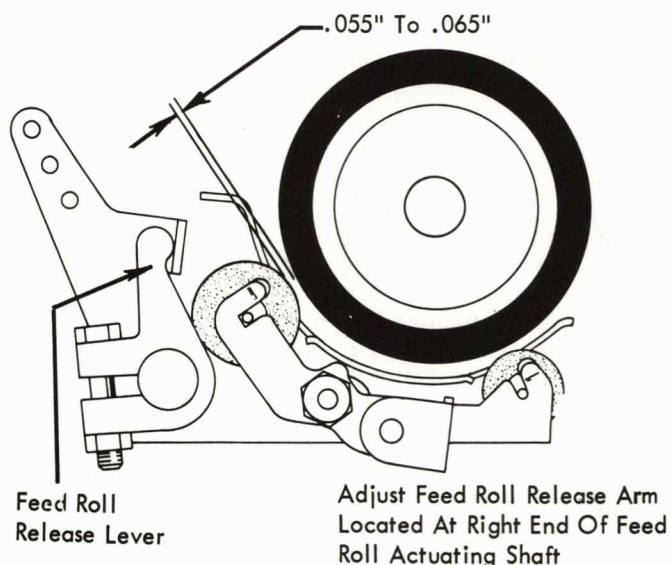

FIGURE 191. Paper Release Adjustment
- Paper Release - Adjust the feed roll release arm (Fig. 191) to obtain a release clearance of .055" to .065" between the rear feed roll and the platen.
NOTE: The clearance should be the same at each end of the feed roll. The clearance can be equalized by adjusting either the left or right feed roll release lever (Fig. 191).